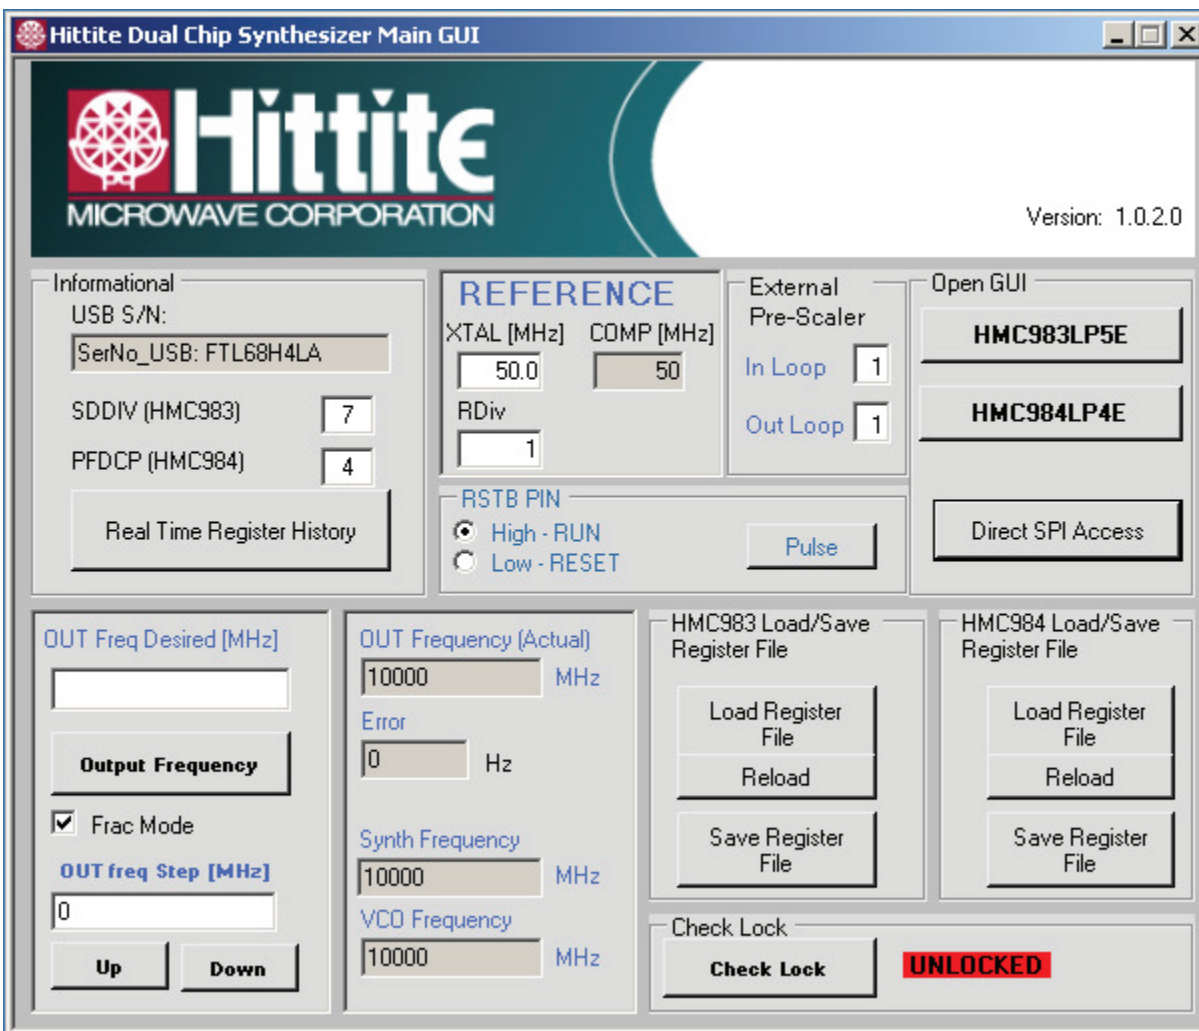

Figure 5. Hittite Dual Chip Synthesizer Main GUI Dialog
- Press “Done”, the HMC983LP5E & HMC984LP4E Main Control GUI shown in Figure 5 will appear.